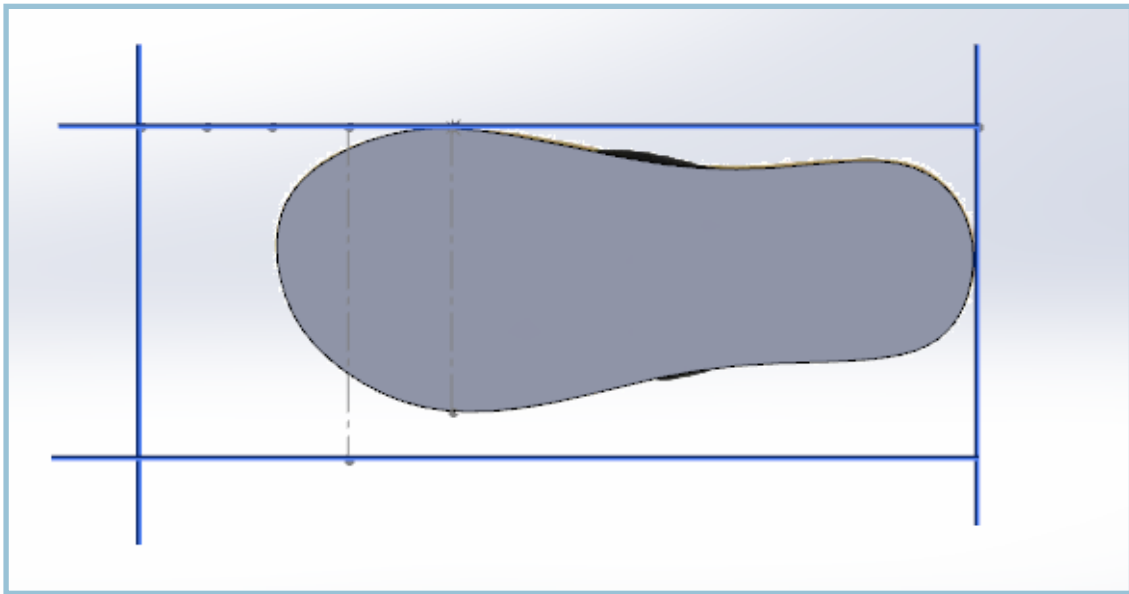

Figure 33– The planes moved out to the Size 12 distances
5. Move the two planes to the distances for the size 12 sole, (Figure 33).